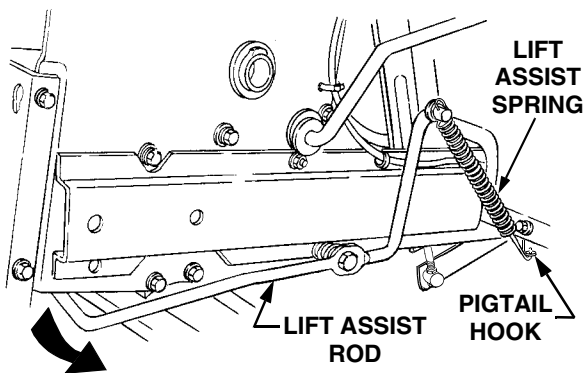

Figure 41
19. From beneath the right rear fender, push the lift assist rod down and outward to release from the frame. Disengage the hook of the lift assist spring from the pigtail hook (See Figure 41).